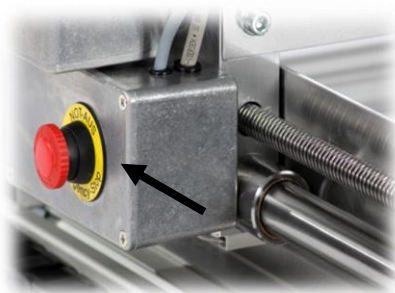

Abb. 2: Emergency-stop-button on
- Only unlock the emergency-stop-button (Abb. 2 u. 3) when there is no risk.